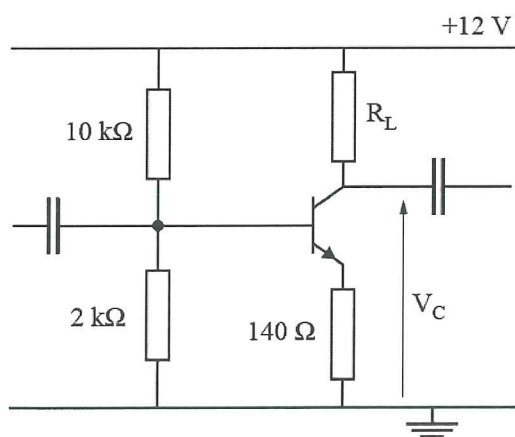

Fig Q3
- (a) the steady state relay current; (2)
- (b) the time constant for the coil; (4)
- (c) the inductance of the coil. (4)
- (d) To increase the operating time of the relay, a 50Ω resistor is connected in series with the coil. (4)
- Calculate the new operating time for the relay. (6)
3. The p.d. across the base emitter junction of the silicon transistor shown in Fig Q3 is 0.6 V and the output voltage V_C is 4 V .